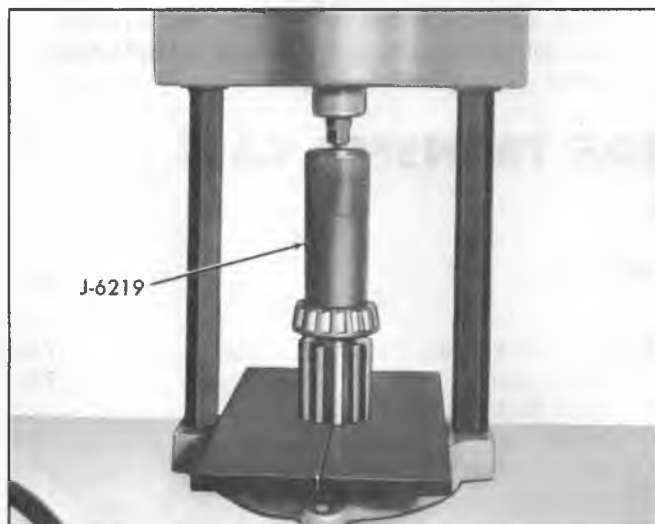

Fig. 13D—Installing Front Output Shaft Rear Bearing
4. Support front output shaft and press rear bearing onto shaft using Tool J-6219 as shown in Figure 13D.